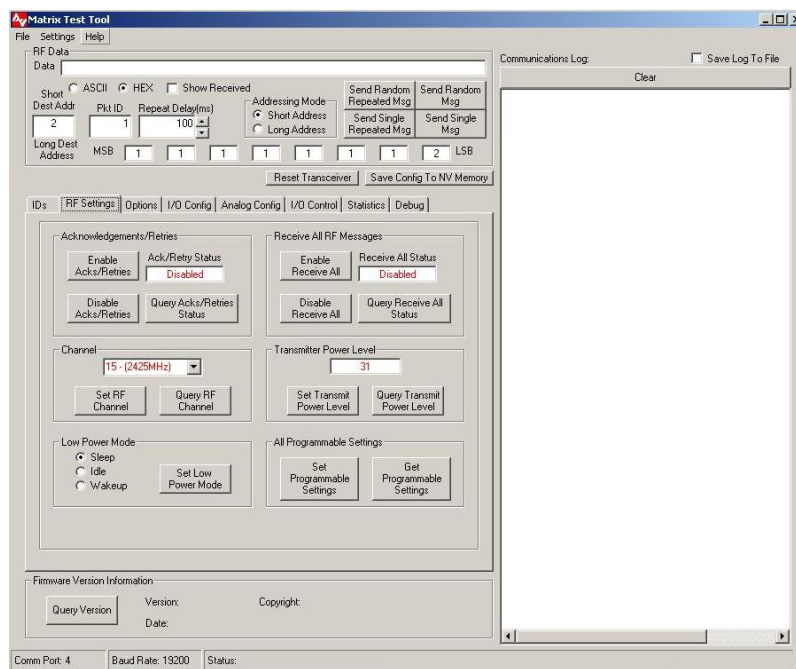

Figure 4-3. RF Settings
4.2.5 RF Settings (See Figure 4-3)
The RF Settings page can be accessed by selecting the *RF Settings* tab in the software and is shown in Figure 4-3. The following features are provided in the RF settings page.